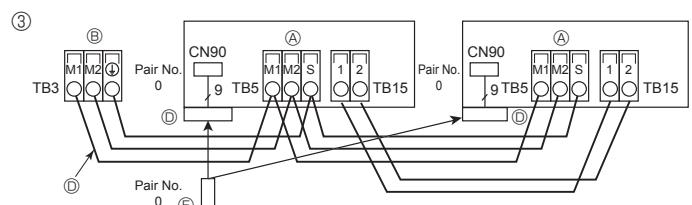

Fig. 6-5
- ④ Wireless remote controller (When installing wireless signal receiver) (Fig. 6-5)